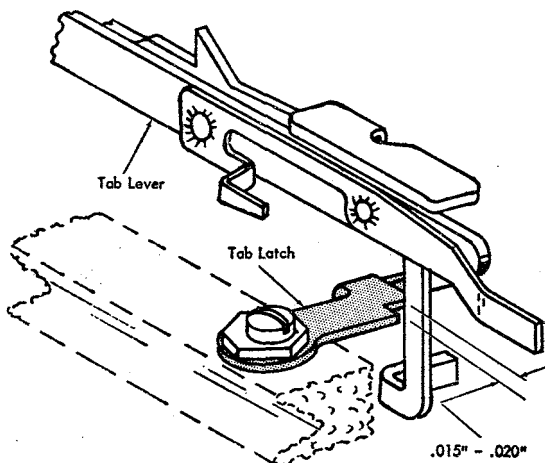

Figure 27. Operating Link Adjustment
The tab latch is mounted atop the rear rail with an adjustable eccentric and works against a lower extension of the tab lever (Figure 27). The tab-check lever works against a lug on the tab latch to effect tab lever unlatching.
8. OPERATING LINK. Adjust the length of the link so there is a clearance of .015" to .020", between the contact surfaces of the tab latch and the tab lever, when the cam is on its high point (Figure 27).